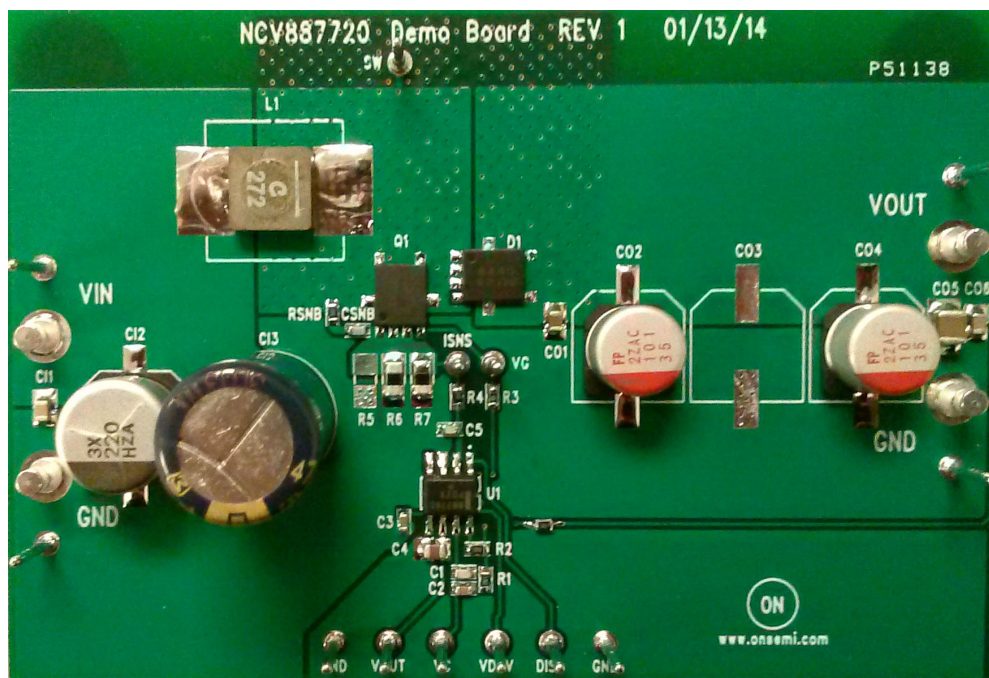

Figure 1. NCV887720 Start-Stop Evaluation Board
1. Connect a DC source voltage (15 A capable) set to a voltage of 13 – 14 V as shown in Figure 1.
2. Connect the DISB TTL control signal as shown in Figure 1. The initial DISB state should be set to logic –‘0’.